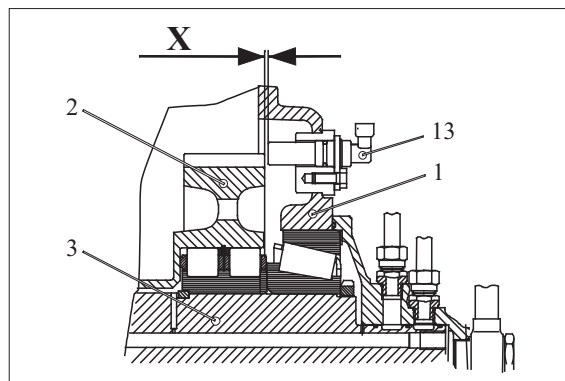

Figure 382
(13) (figure 382~387)
※ Installation position of the speed transmitter, also see figure 382.